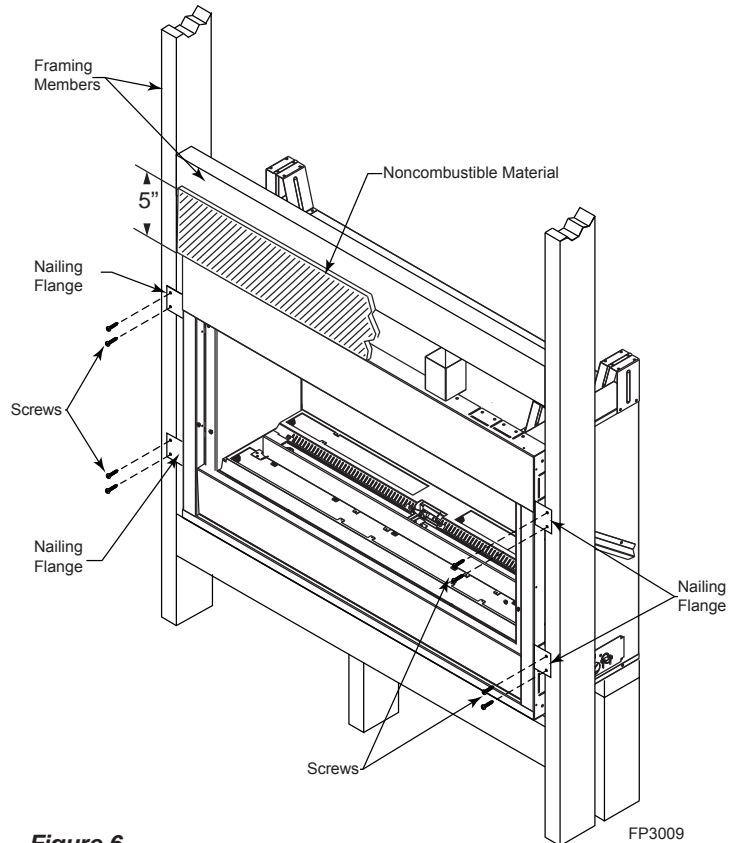

Figure 6 – Secure Fireplace to Framing Studs
The fireplace must be secured to the framing studs as shown in *Figure 6*. Use four (4) screws to attach fireplace to framing. The side nailing flanges are 1/2" or 5/8" to accommodate different wall thickness.